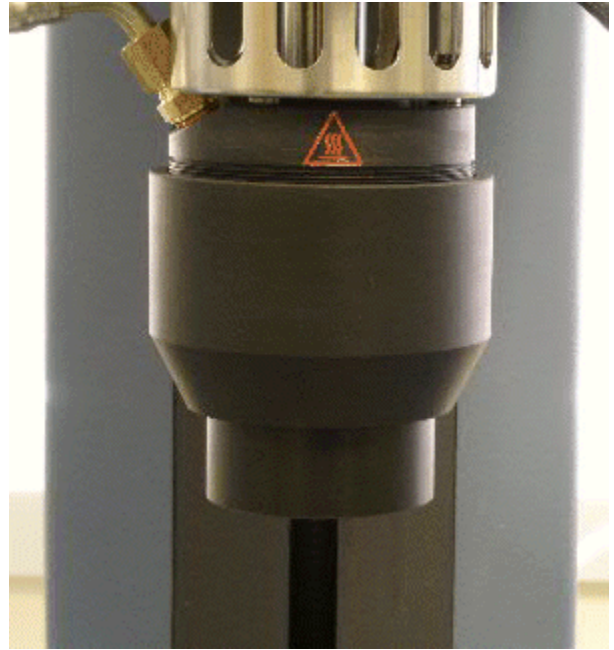

Figure 7.20
1. Remove the geometry holder from the instrument shaft, and remove the geometry from the holder (see Figure 7.20).